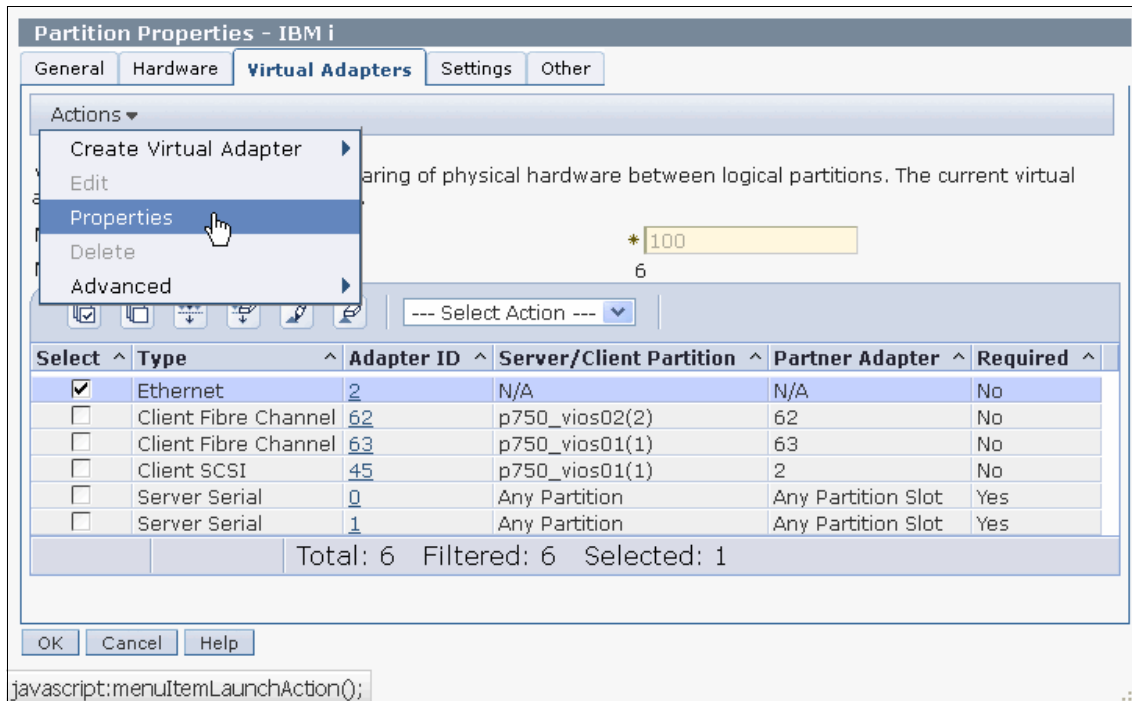

Figure 8-11 HMC IBM i partition properties panel
5. Select your IBM i partition and select **Properties** to open the partition properties window as shown in Figure 8-11.